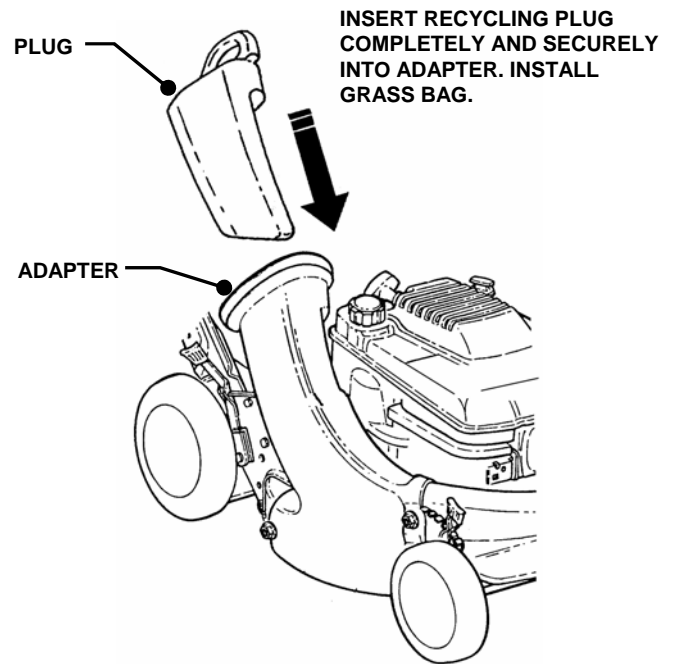

FIGURE 2.12
STEP 1: Once adapter has been installed, recycling may be desired. Insert recycling plug completely and securely into adapter. Install grass bag. See Figure 2.12.